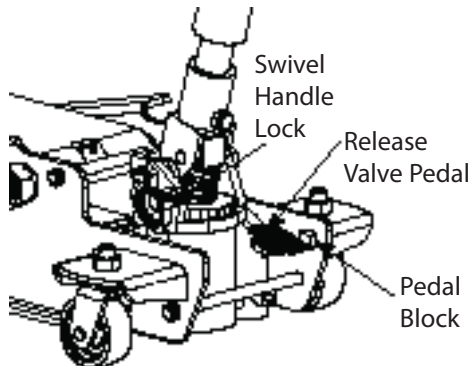

Figure 2 - Release Valve Pedal
3. To familiarize yourself with basic operation, insert and secure the provided handle into the handle fork. The release valve on this model is always 'CLOSED'; so you may simply pump the operating handle to raise the load. To lower the load, simply locate and press down on the release valve pedal. The release valve on this model 791-6430 is always spring-biased in the "ON" position and may require special skills and training to operate with proficiency. Extraordinary care should be exercised when lowering a load. Fig. 2 shows the open release valve position used to lower the load.